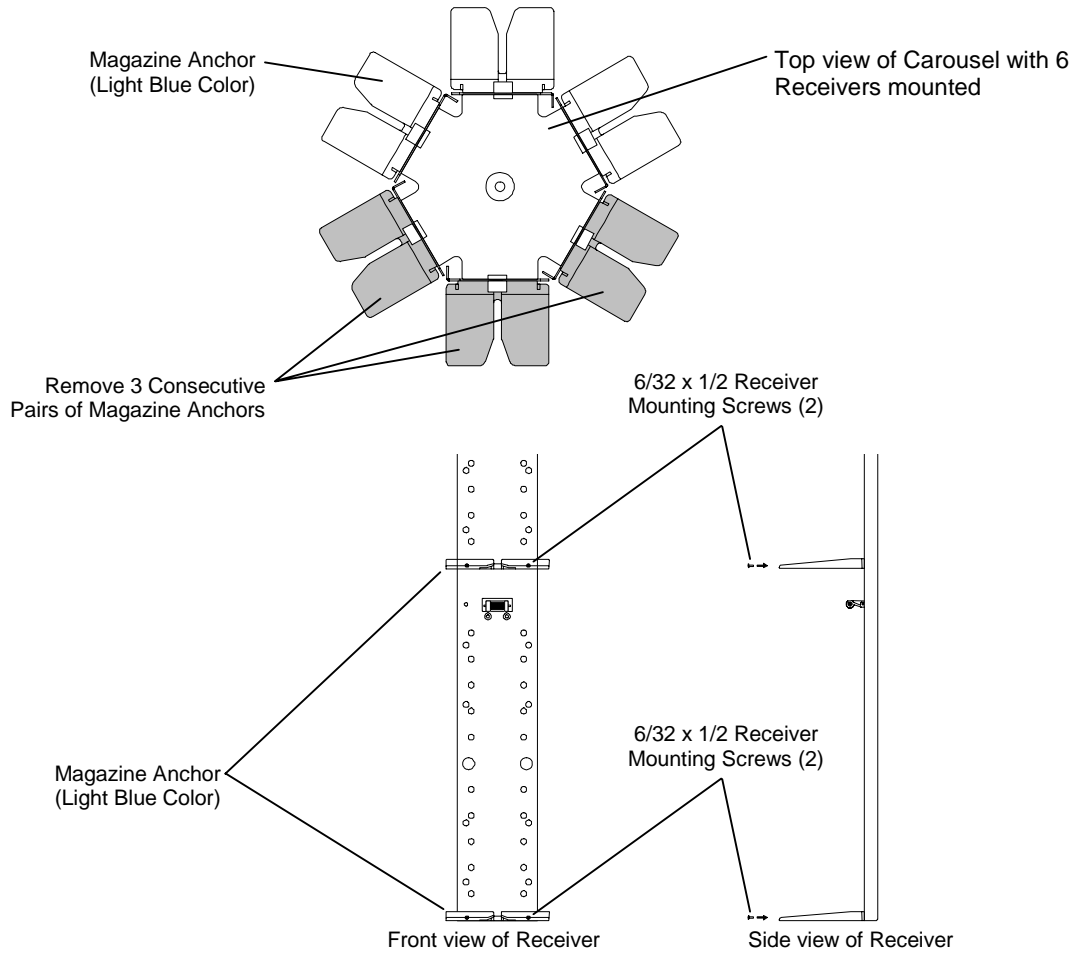

Figure 7-72 Magazine Anchors Shown on 58xxx/68xxx/88xxx Models
8. Remove both of the Magazine Anchors from 3 consecutive receivers on the carousel. For each Magazine Anchor being removed, use a number 2 Phillips screwdriver to remove the two Receiver Mounting Screws and then remove the Magazine Anchor. To keep the receiver in alignment replace the two Receiver Mounting Screws into the Receiver Mounting Screw holes and tighten with a number 2 Phillips screwdriver before removing the next Magazine Anchor. See Figure 7-72.
9. For each Magazine Anchor that was removed, use a number 2 Phillips screwdriver to remove the two Receiver Mounting Screws. Position a Magazine Anchor at the bottom of the receiver and align the mounting screw holes. Insert the two Receiver Mounting Screws through the Magazine Anchor and tighten them securely with a number 2 Phillips screwdriver. See Figure 7-72.